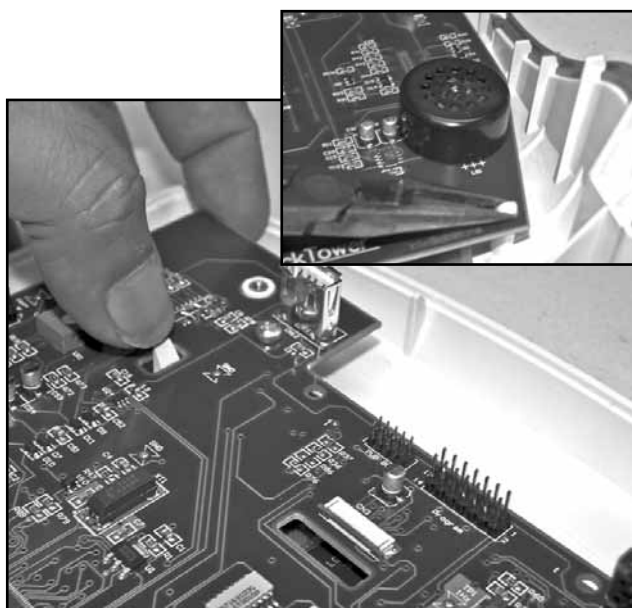

FIGURE 6.30
5. Starting at the top of the Control Board Assembly, lift Control Board with one hand, push in and release the plastic clips holding Control Board Assembly in position. See Figure 6.30.
6. While holding up on Control Board Assembly, use the Needle Nose Pliers to squeeze the lower plastic retainers holding the bottom of the Control Board. See Figure 6.30 inset.